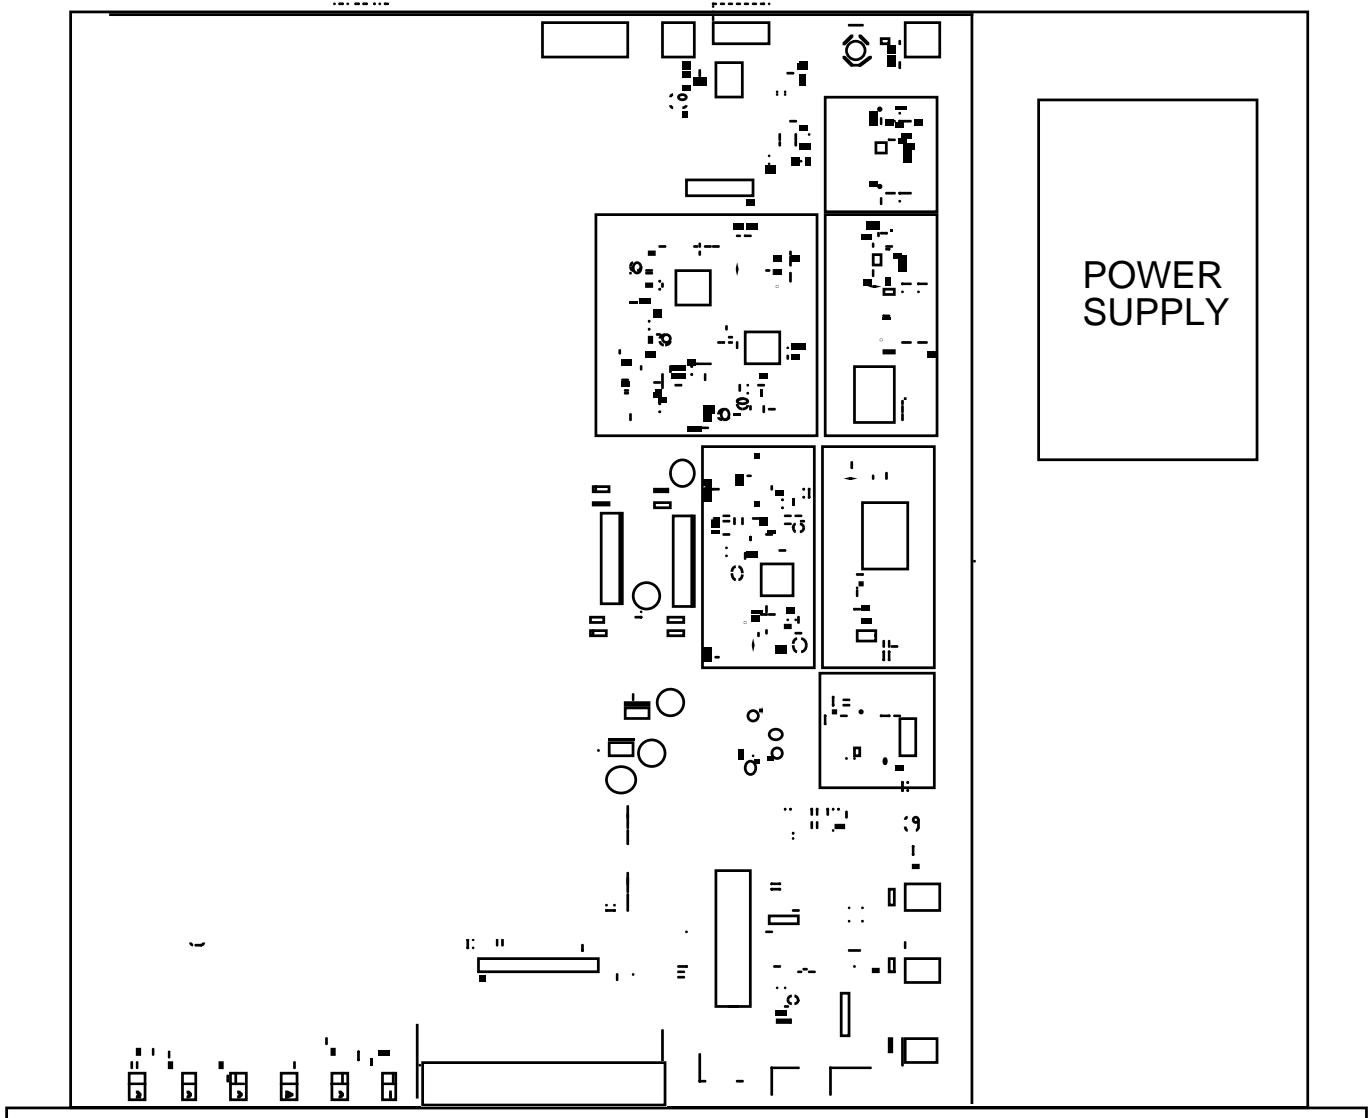

FIGURE 2.1 2083-2717 Mechanical Assembly
2.1 Mechanical - The 2083-2717 consists of one RF/Controller PCB housed in a 1 RU (1 3/4 inch high) by 16 inch deep chassis. A switching, ± 12 , +24, +5 VDC power supply provides power for the assemblies. The 2083-2717 can be secured to a rack using the 4 holes on the front panel. Figure 2.1 shows how the 2083-2717 is assembled.